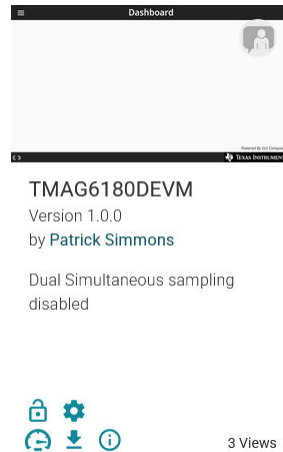

Figure 3-5. GUI Composer Application Window
3. To launch the GUI from the web browser, click the *GUI Composer* application to open the *GUI Composer* window (see Figure 3-5).
4. Optionally, click the  icon in the *GUI Composer* window to download the GUI for offline use (see Figure 3-5).